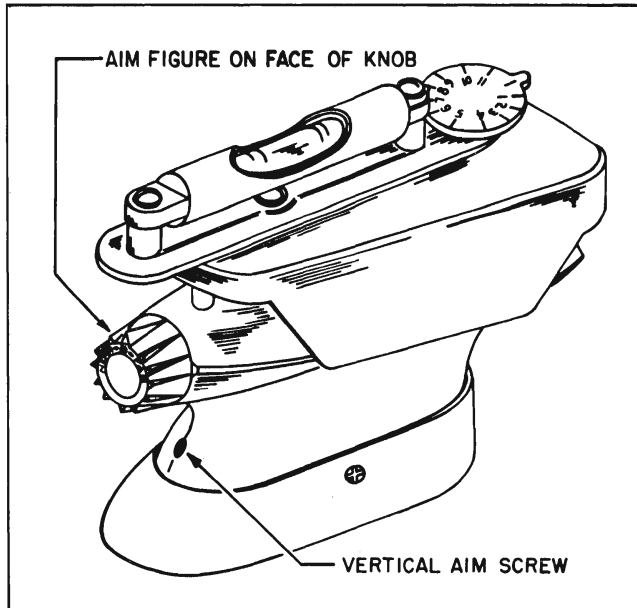

Fig. 12-14 Aiming Device Installed
4. Set aiming device No. 6 on top of phototube unit (Fig. 12-14).